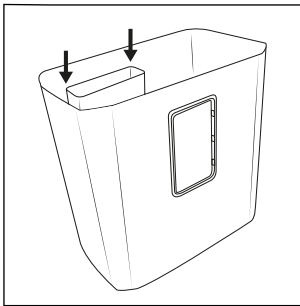

Fig. 1
- ◆ Place the small waste collector **10** in the large waste collector **12**. To do this, push the small waste collector **10** down along the guide rails in the large waste collector bin **12** until it is fully engaged (see fig. 1).
- ◆ Place the small waste collector ⑩ back in the large waste collector ⑫ (see fig. 1).